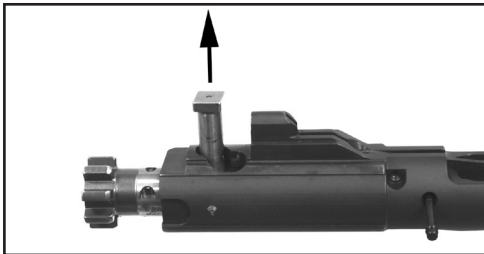

Fig. 43 – Remove the Cam Pin
- e. Lift up and remove the cam pin from the shaft of the bolt head (Fig. 43).